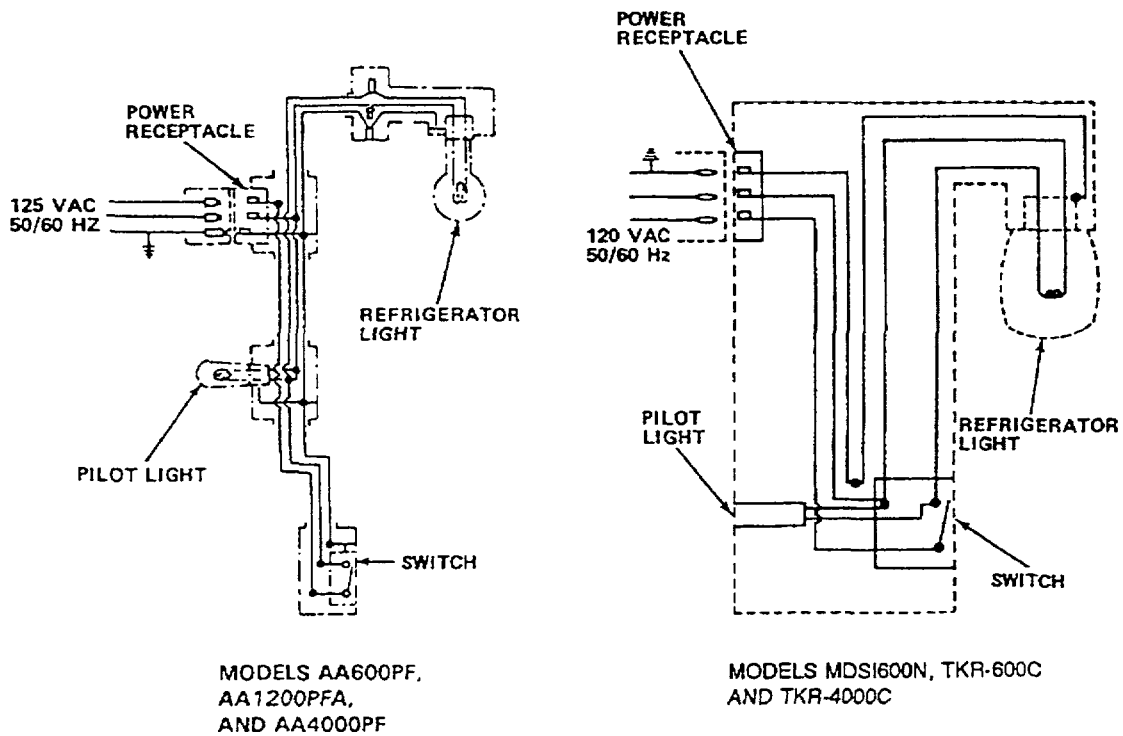

Figure 1-3. Wiring Diagram
c. The external power receptacle, mounted outside the refrigerators, is connected to a light switch, light and pilot light. The light switch is mounted inside the refrigerator and controls the inside light. The pilot light is outside the refrigerator and indicates when the inside light is on. This circuit requires a 125 VAC input to power the lights. (See figure 1-3.)